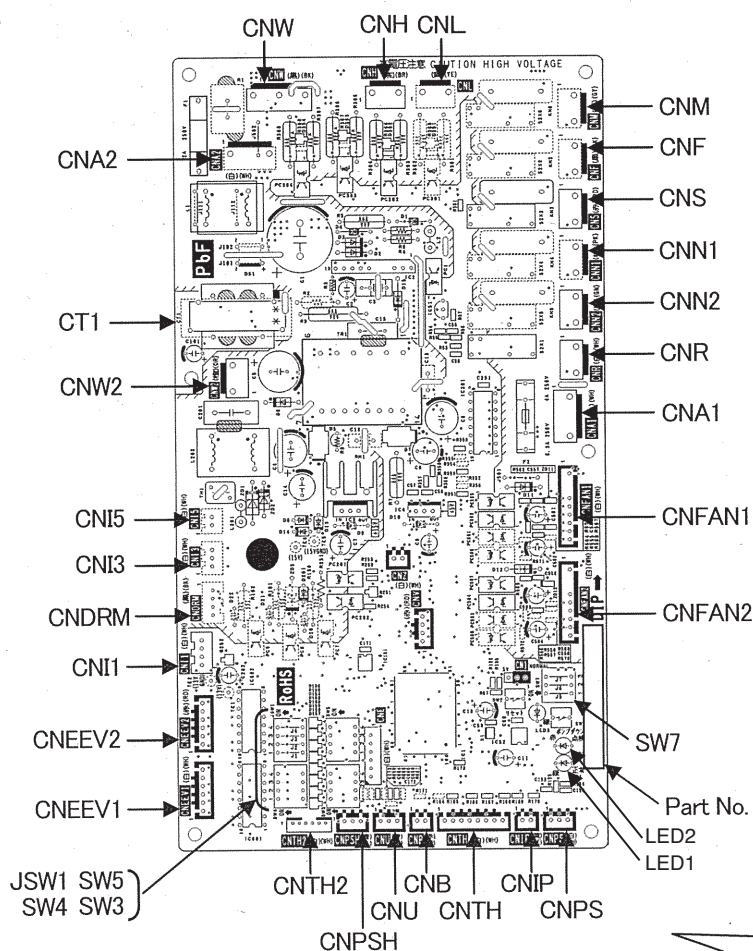

Fig. 1 Parts arrangement view
3. Disconnect the connectors from the control PCB. (Refer to Fig.1)
Replace the inverter PCB (Fig.1) according to the following procedure.
- 5) Disconnect connectors from the inverter PCB (Refer to Fig.1), remove a snubber capacitor (Refer to Fig.4) and harnesses ("P", "N", "U", "V" and "W"), and exchange the inverter PCB then. In the situation of being opening main layer, do not press the control from above. It will cause the product deformation or injury.